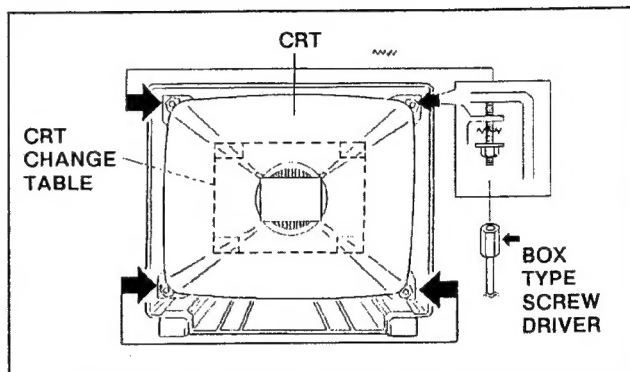

Fig. 4
- 2. While keeping the surface of CRT down, mount the TV set on the CRT change table balanced will as shown in Fig. 4.
- 3. Remove four nuts marked by arrows with a box type screw driver as shown in Fig. 4.